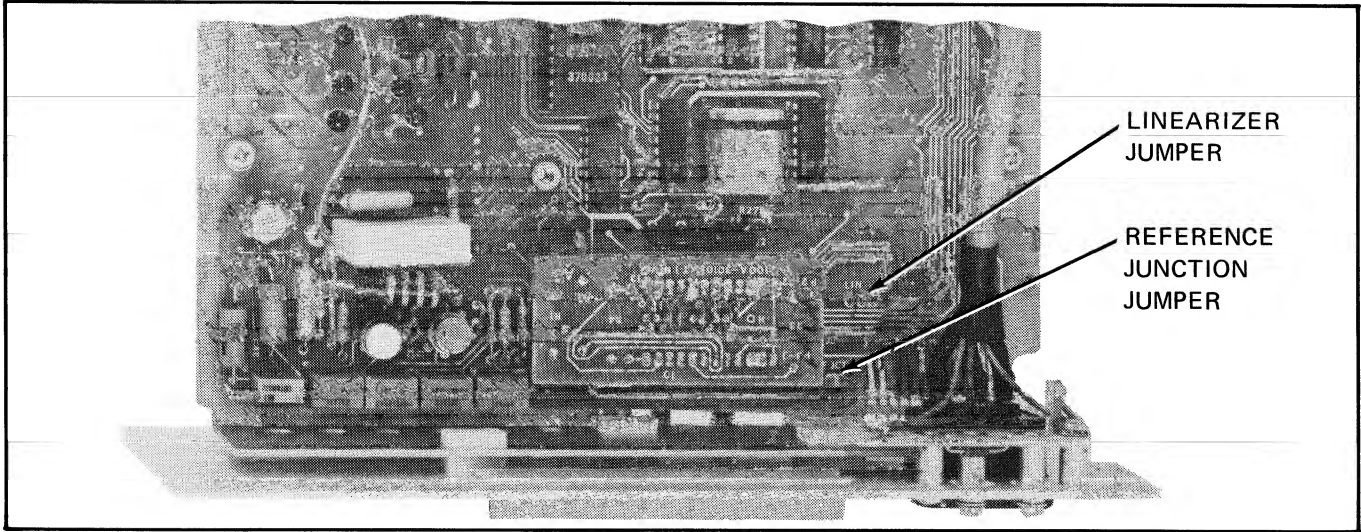

Figure 4-2. LINEARIZER AND REFERENCE JUNCTION JUMPER LOCATIONS.
- b. Remove the LIN and REF JCT jumpers. They are located near the left rear corner of the Basic PCB, (see Figure 4-2).
- Plug the linearizer jumper into the Main PCB (See Figure 4-2).